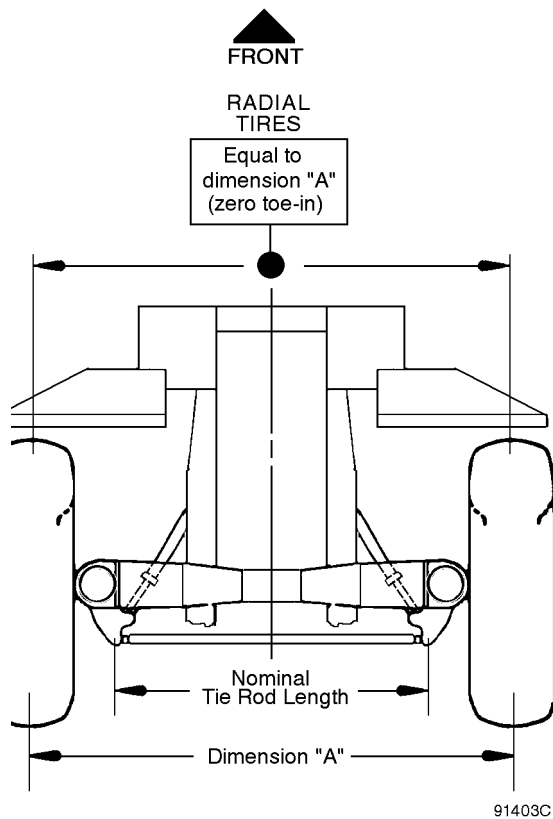

FIGURE 3-15. MEASURING TOE-IN
3. Check the toe-in by measuring the distance between the centers of the front tires. Obtain the measurements on the horizontal centerline (Dimension "A", Figure 3-15) at the front and rear of the tires.